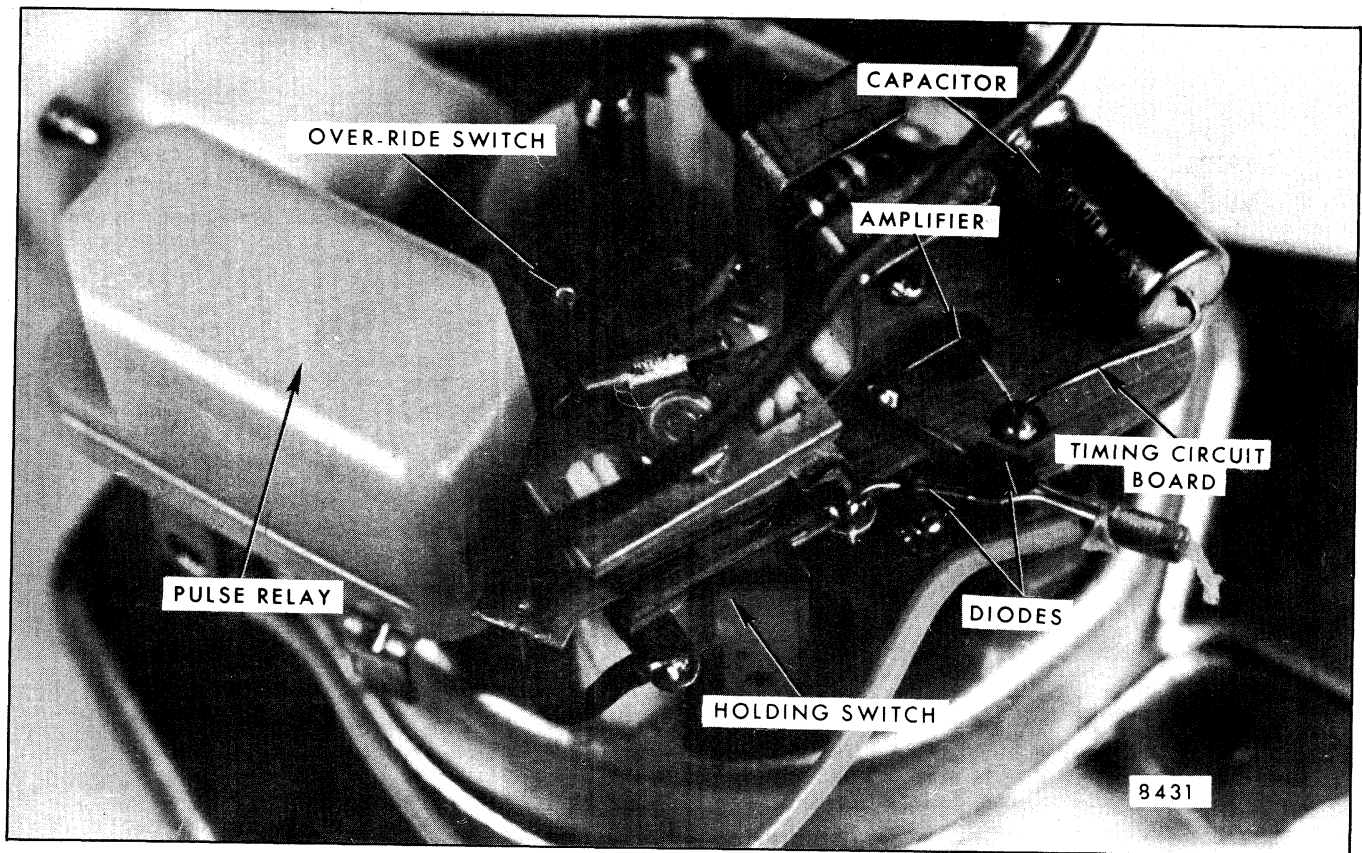
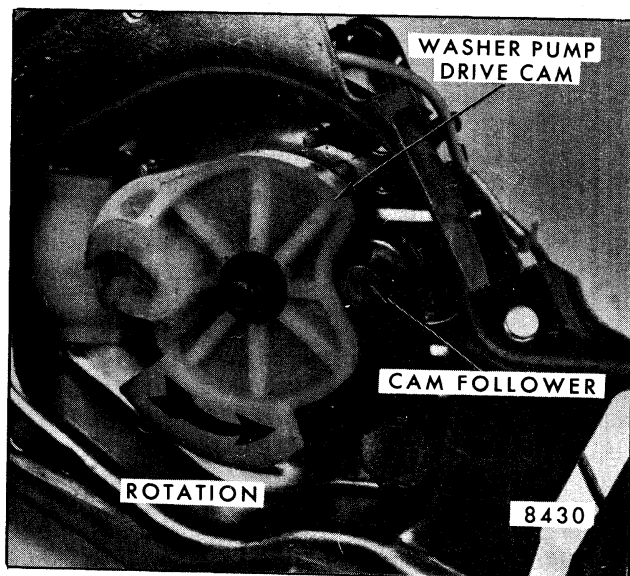
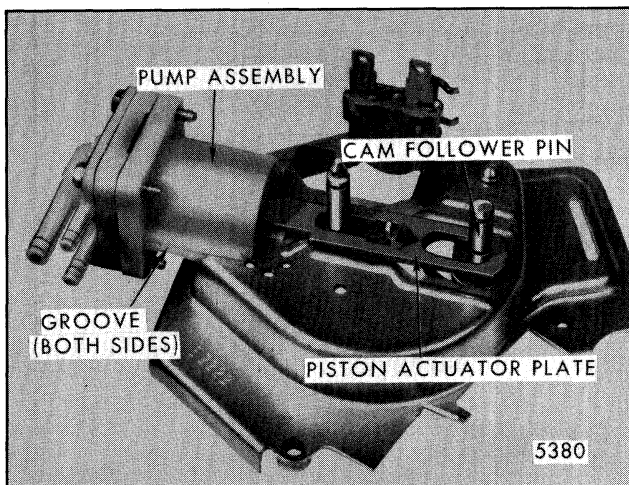
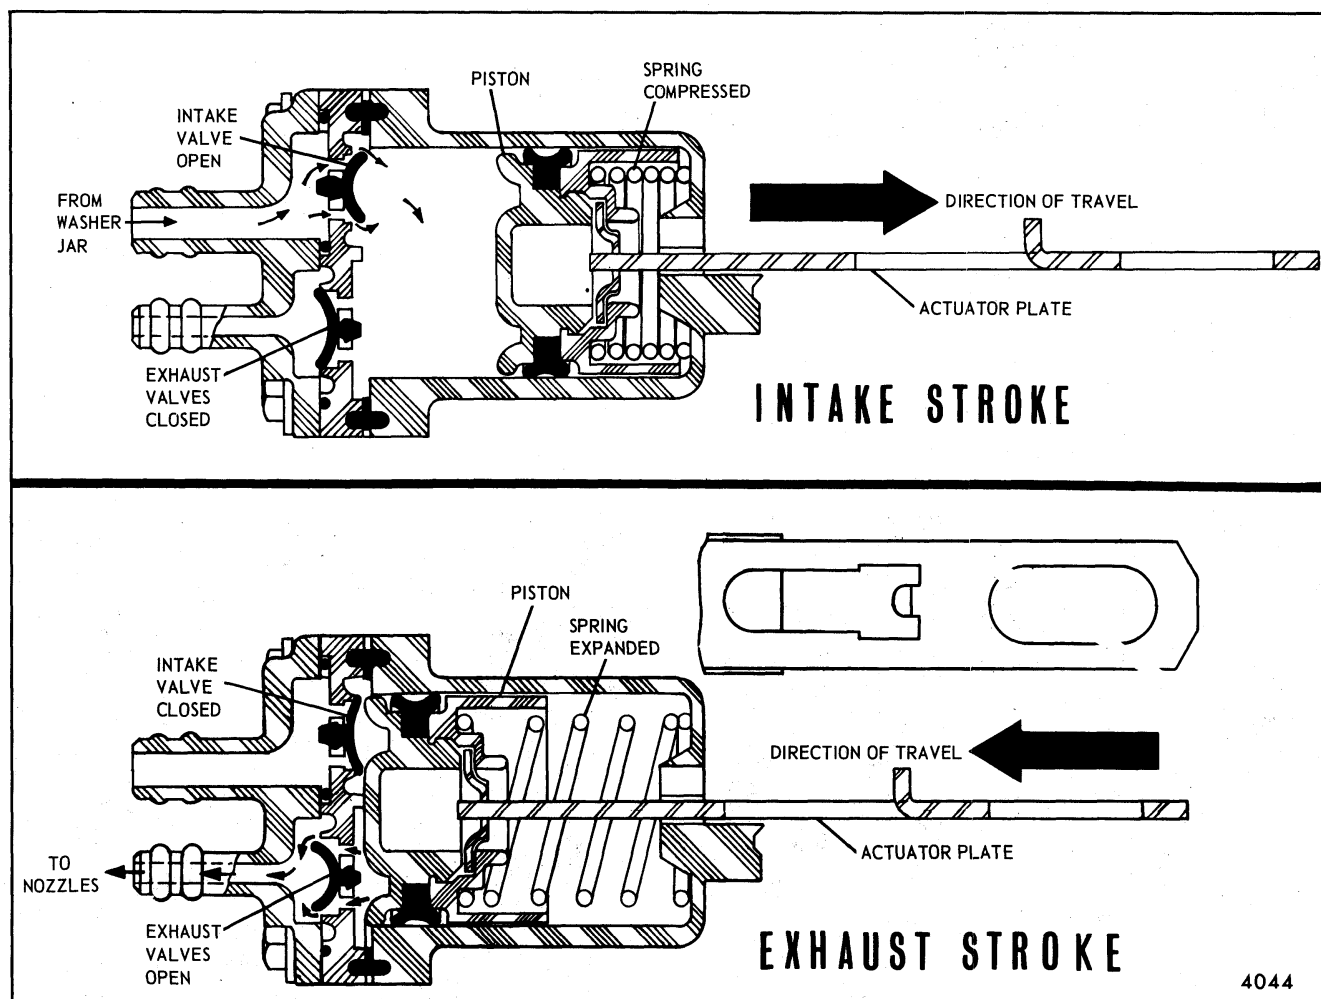

Fig. 2-110-Modified Pulse Washer Pump Timing Circuit
Fig. 2-111-Washer Pump Cam Rotation
Fig. 2-116-Pump Intake Stroke
Fig. 2-119-Intake and Exhaust Stroke
The washer pump used on the modified pulse wiper differs considerably from the pump used on a standard wiper. Referring to Figure 2-110 note the following components NOT found on a standard pump: (1) pulse relay, (2) override switch, (3) holding switch, (4) solid state electronic device and, (5) a special drive cam (Fig. 2-111). These special components serve the following functions:
The basic pump mechanism consists of a spring-loaded piston assembly enclosed in a plastic cylinder. Attached to the piston and extending out of the cylinder housing is an actuator plate. A valve assembly consisting of two exhaust valves and one intake valve is attached to the opposite end of the cylinder housing and controls the flow of washer solution (Fig. 2-116).
NOTE: Figures 2-116 and 2-117 show the pump with most of the programming parts removed for illustrative purposes.
Referring to Figure 2-116 note that the elongated slot of the piston actuator plate fits over a pin. This pin is a part of a cam-follower assembly which is actuated by a drive cam located on the underside of the pump mounting plate (Fig. 2-111). When the wiper is running, the drive gear rotates the drive cam which in turn causes the cam-follower to move back and forth.
Note that a tang on the piston actuator plate is resting against a ramp on the lower surface of the ratchet gear (Fig. 2-116). This holds the piston actuator plate in a lock out position as long as the RATCHET GEAR IS NOT ROTATED.
The ratchet pawl which is actuated by the same cam-follower pin that moves the piston actuator plate then begins to rotate the ratchet wheel. Rotating the ratchet wheel one tooth moves the ratchet wheel ramp away from the tang of the piston actuator plate (Fig. 2-116), permitting the piston spring to expand which, in turn, forces the piston toward the valve assembly resulting in the first exhaust stroke (Fig. 2-119).
lower pin to move the actuator plate and piston in a direction that will compress the piston spring, causing washer solution to be drawn into the piston housing via the intake valve. (intake stroke, Fig. 2-119).